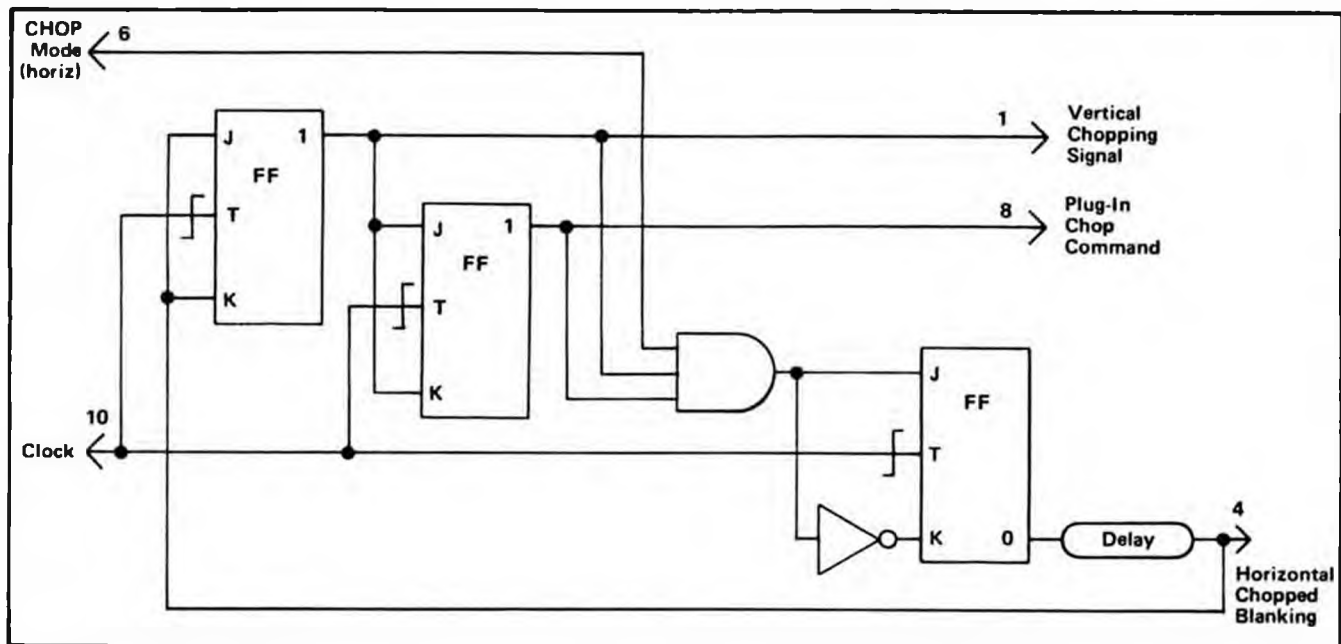

Fig. 3-19. Logic diagram of Chop Counter stage.
A logic diagram of the Chop Counter stage is shown in Fig. 3-19. Details of operation for the flip flops (FF) are shown in Table 3-1 at the front of this section. Use the waveforms given in Fig. 3-18B along with this diagram.